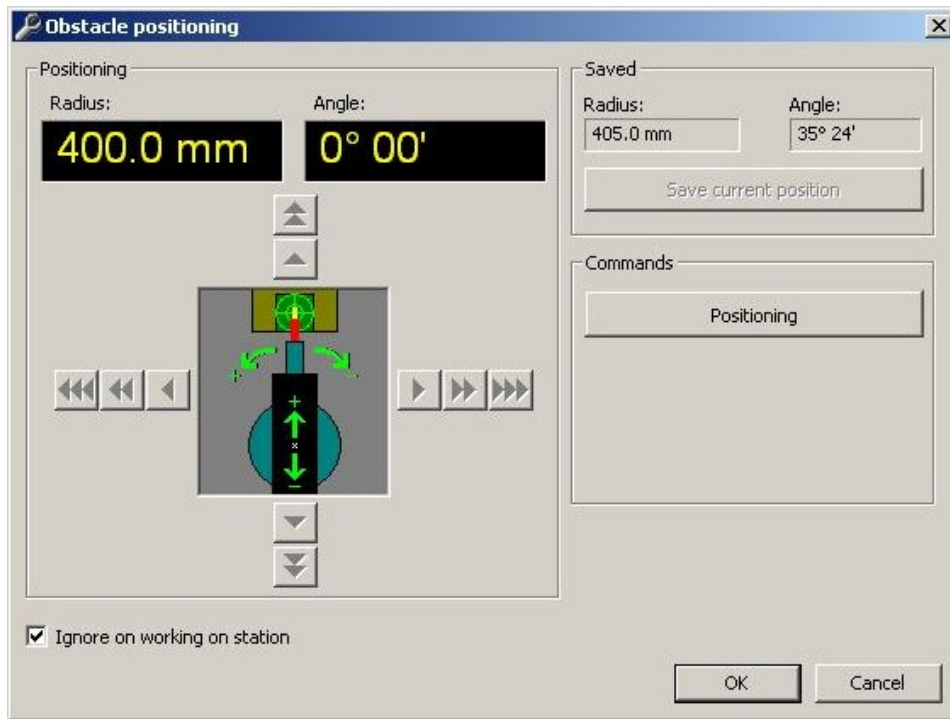

Figure 37
b. Select "Positioning" again. See Figure 37.